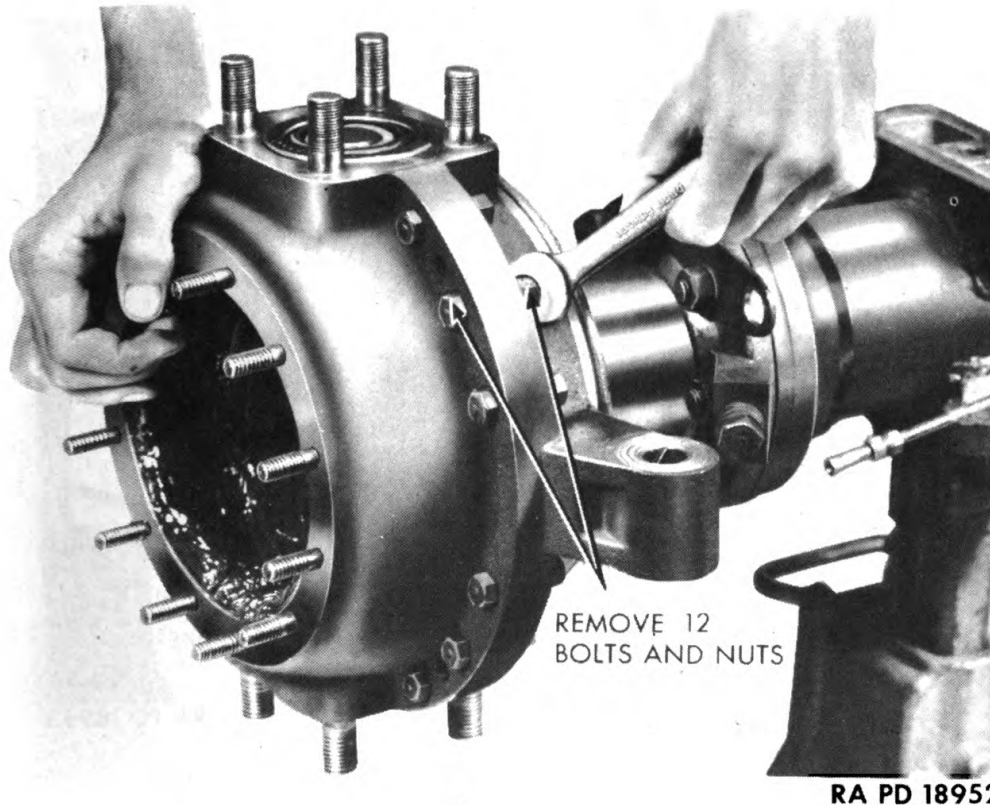
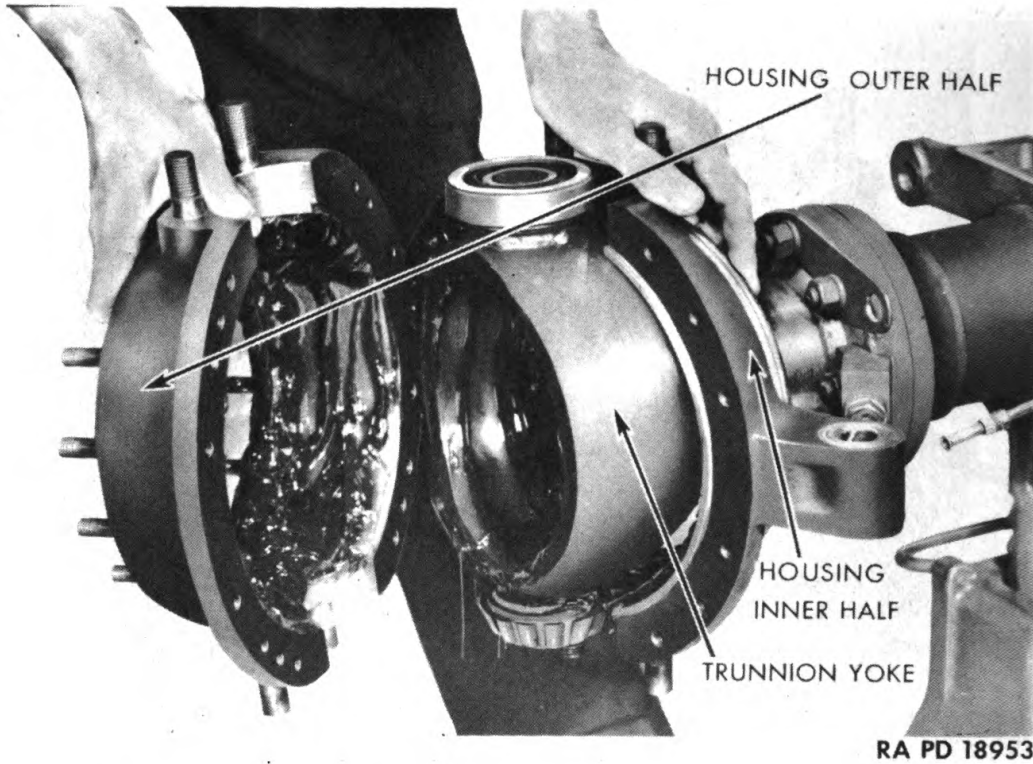

Figure 35 — Removing Trunnion Yoke Housing Bolts
Figure 36 — Removing Trunnion Yoke Housing Outer Half
k. Disassemble Trunnion Yoke Housing. Remove nuts and lock washers from 12 bolts connecting inner and outer halves of trunnion yoke housing (fig. 35). Separate inner and outer halves of housing (fig. 36).